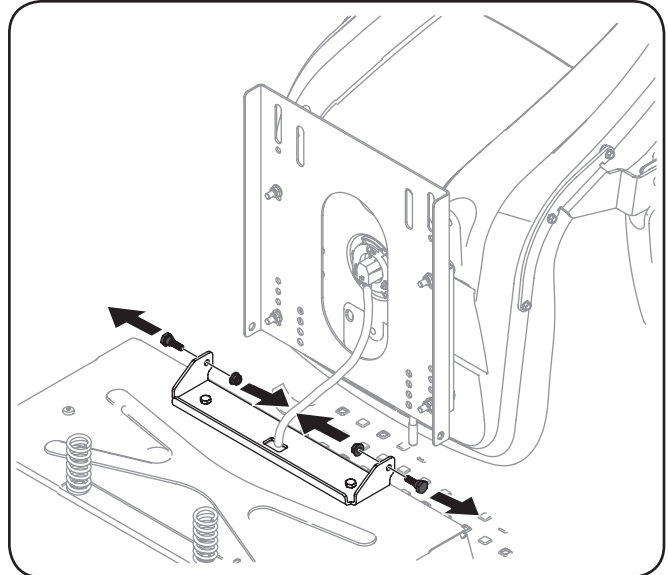

Figure 3-2
2. Remove the two shoulder screws and flange lock nuts in the seat bracket as shown in Figure 3-2.